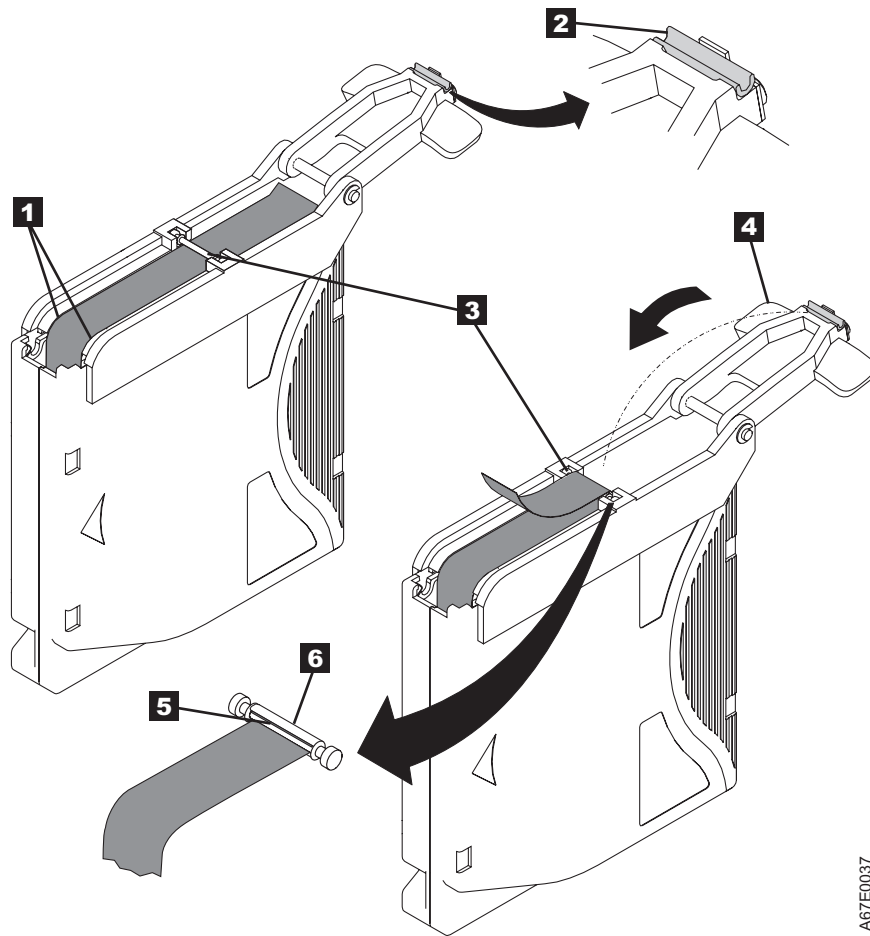

Figure 58. Attaching the leader pin to the tape
7. Position the tape in the alignment groove of the leader pin attach tool (see **1** in Figure 58 on page 238).
11. Fold the tape over the leader pin and hold it with your fingers (see Figure 58 on page 238).